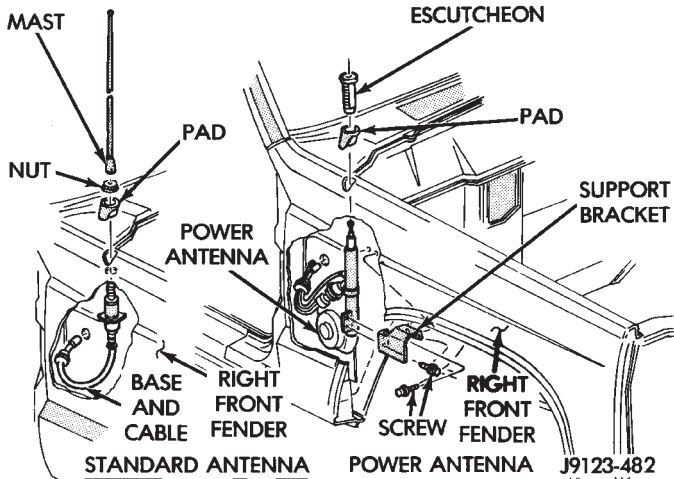

Fig. 34 Radio Antenna Removal/Installation
- (1) Remove the front bumper.
- (2) Right fender only:
- if equipped, remove the radio antenna mast, and components from the fender (Figs. 34 and 35);